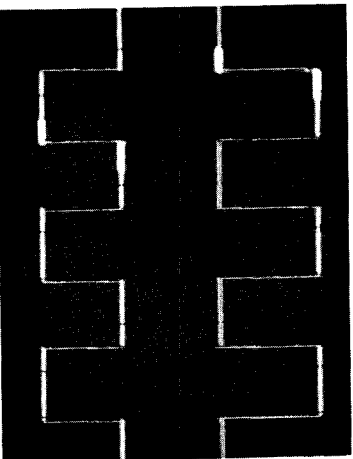

Figure 10. Adjustment of Start and Stop
8. Adjust time-interval START **17** to position first intensified marker at beginning of desired time interval (one channel). (See figure 10.)